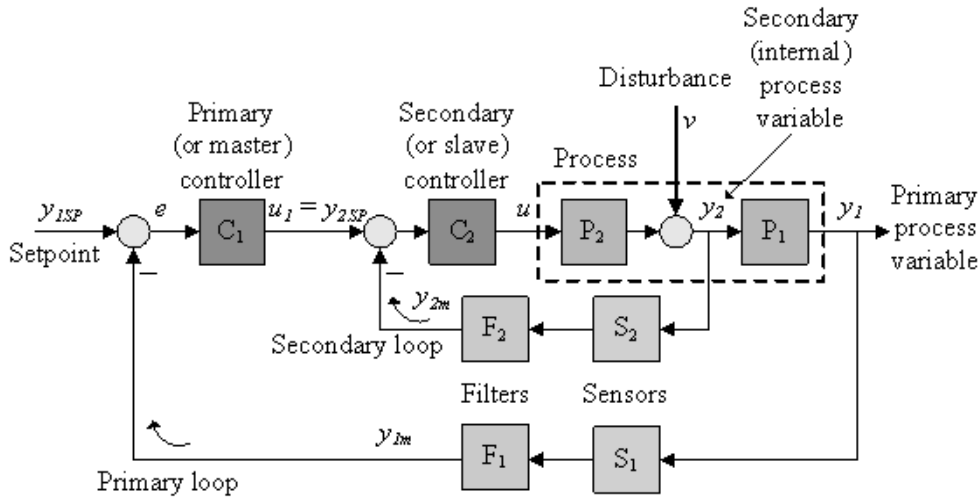

Figure 3: Cascade control system
9. (10%) Cascade control: Usually, the most important reason for using cascade control is to obtain faster (better) disturbance compensation comparing with single-loop control. In a cascade control system there is one or more control loops inside the primary loop, and the controllers are in cascade, see Figure 3. The control signal calculated